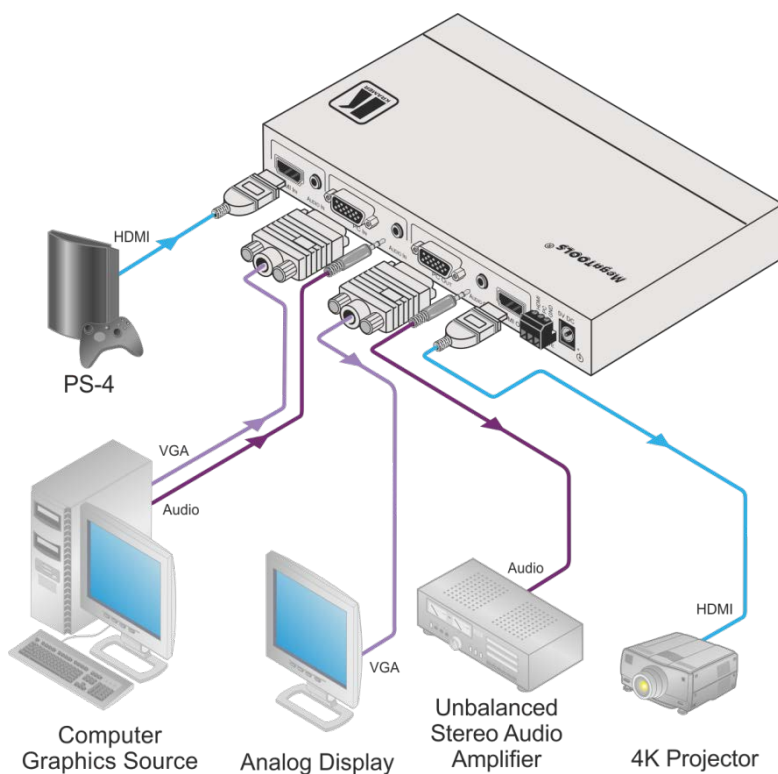

Figure 2: Connecting the VP-426H2 4K HDMI-PC Scaler
To connect the **VP-426H2** as illustrated in the example in Figure 2:
6. Connect the 5V DC power adapter to the power socket and connect the adapter to the mains electricity (not shown in Figure 2).